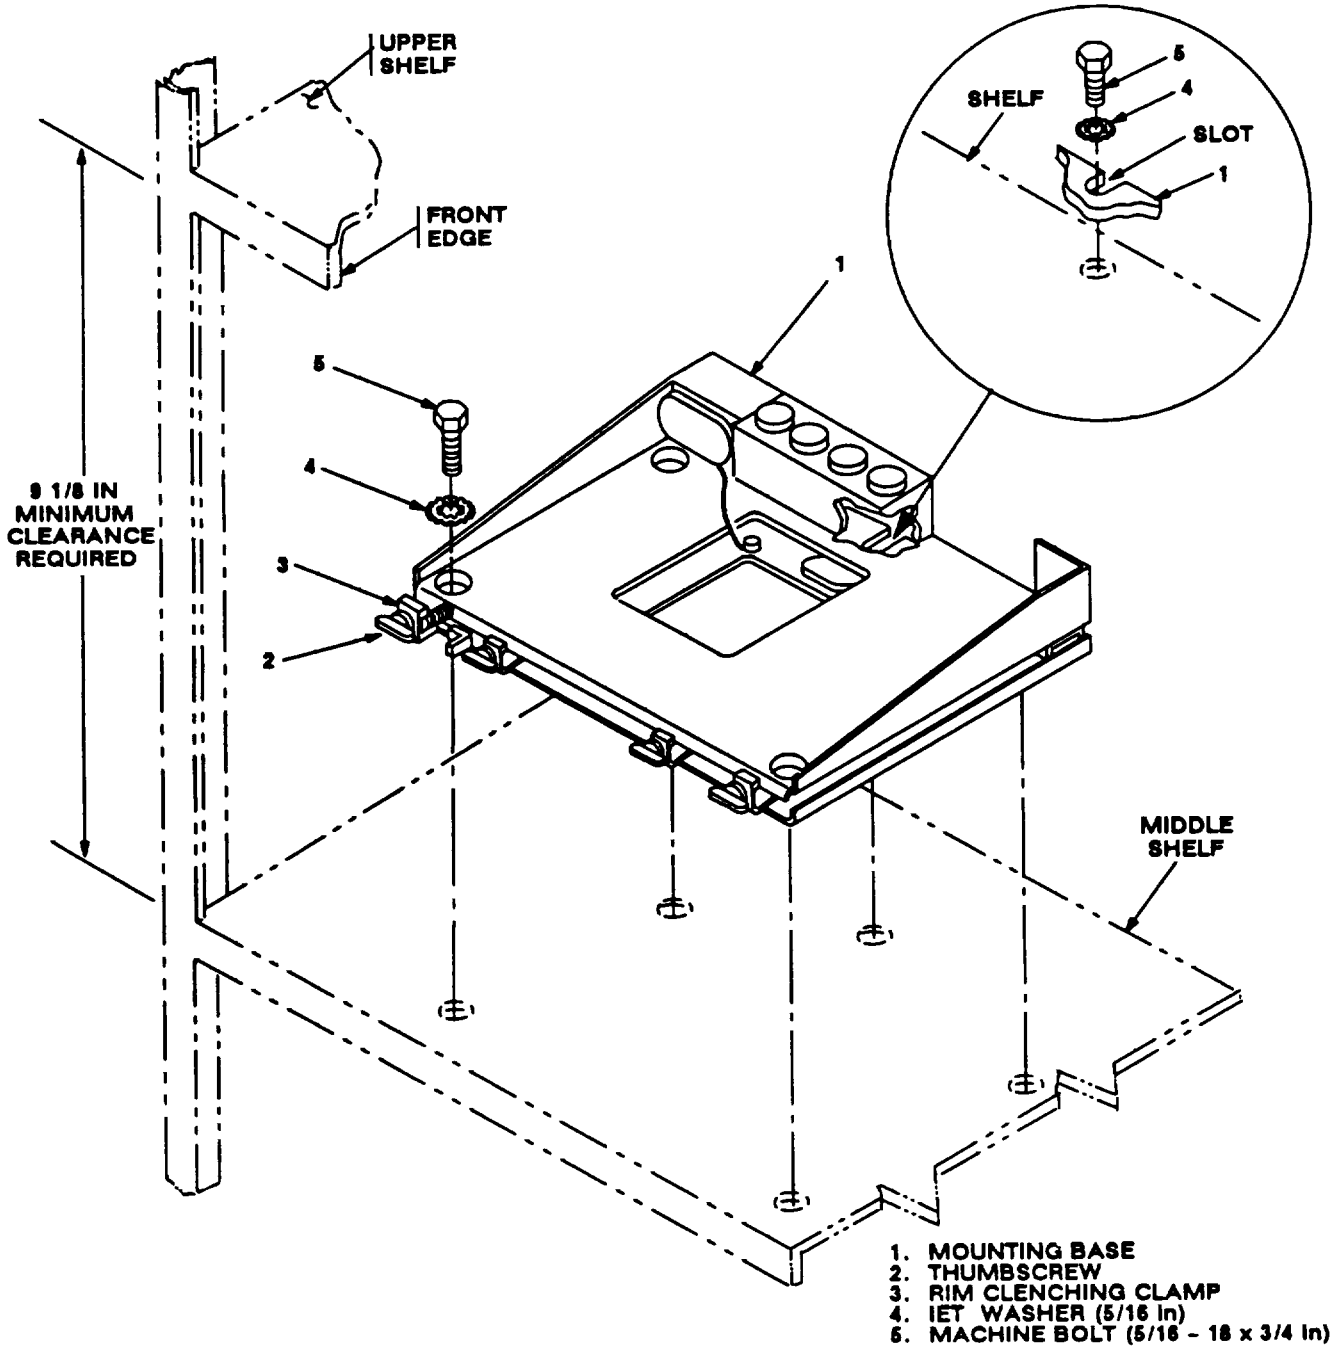

Figure 5-4. Mounting Base Installation: Equipment Rack
**5.2 Installation of Mounting Base, Electrical Equipment MT-6352/VRC (mounting base).** Remove and retain attaching bag of 5/16 in mounting hardware for Installation. To insure good electrical grounding, any rust, corrosion or paint around mounting holes in radio shelf should be removed before installing the mounting base. See figure 5-4 and perform the following steps.